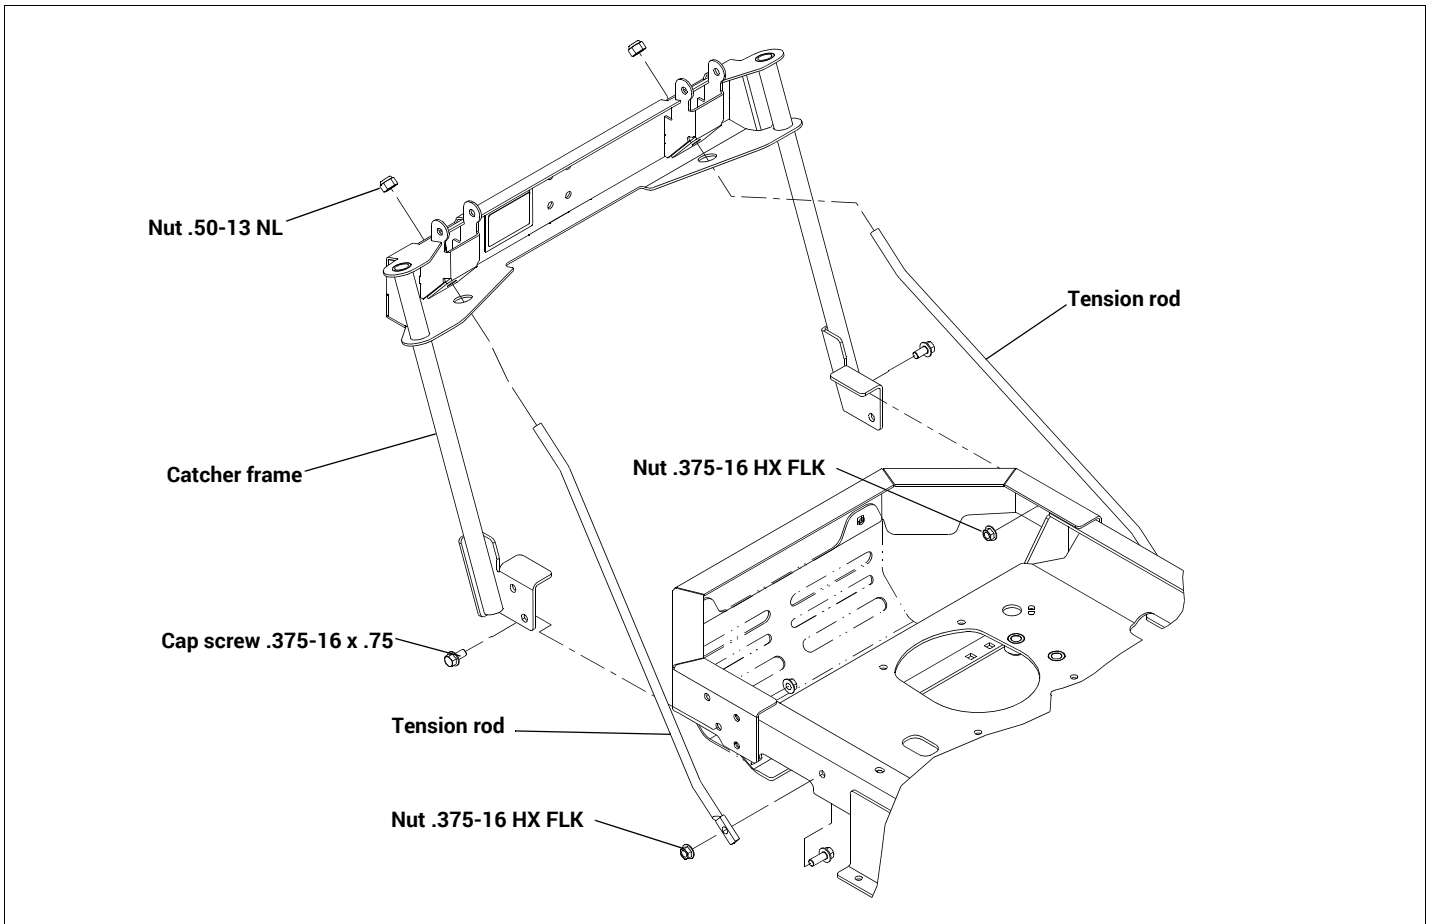

Figure 3-2
5. Attach the catcher frame to the rear of the mower. **Do not tighten** the mounting bolts at this time. Figure 3-2 Insert the tension rods through the holes in the catcher frame and secure in place with the nuts shown. Figure 3-2
6. Attach the tension rods to the mower frame. Figure 3-2